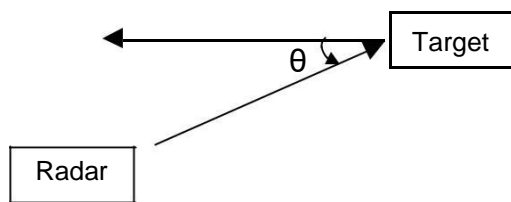

Figure 1. Doppler Shift
**θ** is the angle between the radar beam and the moving target (in degrees) as shown in Fig. 1.